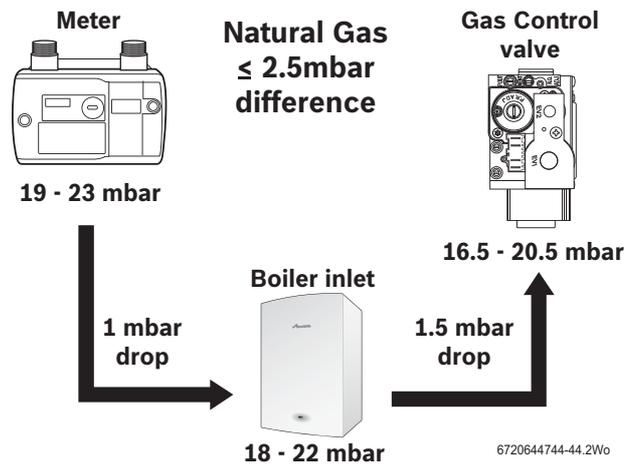
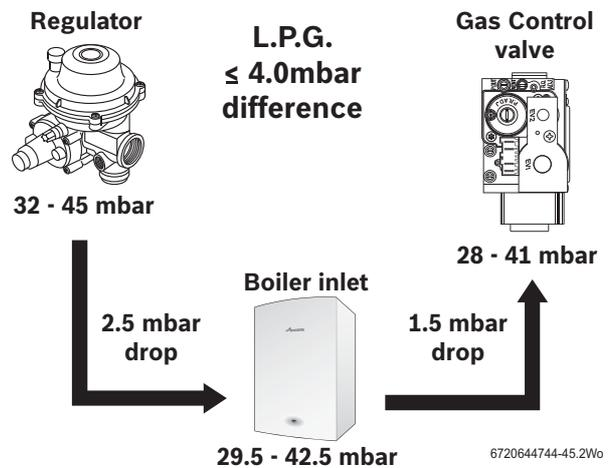

Fig. 56 Natural gas pressures
Fig. 57 L.P.G. pressures
- ▶ Slacken the screw in the inlet pressure test point (1) and connect a manometer.
- ▶ Check the gas supply working pressure at the gas valve conforms to values shown in Fig. 56 or Fig. 57 .